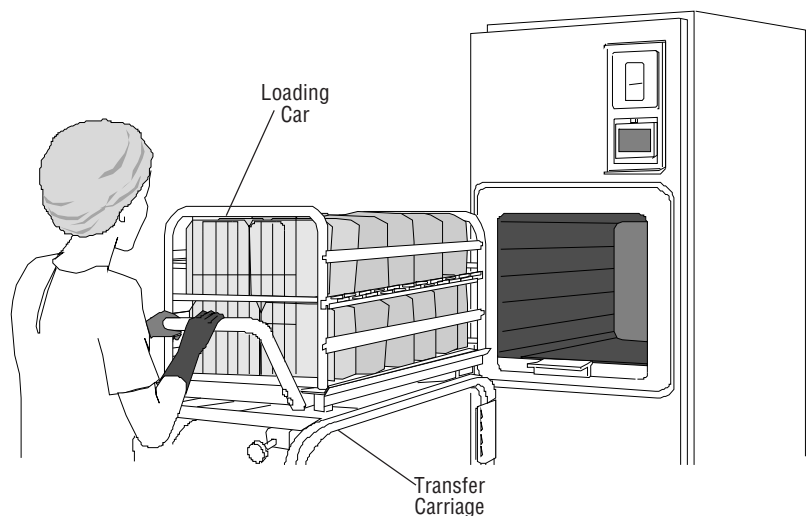

Figure 6-4. Move Loaded Transfer Carriage in Position
3. Move transfer carriage forward until carriage latches with chamber end frame (see Figure 6-4).